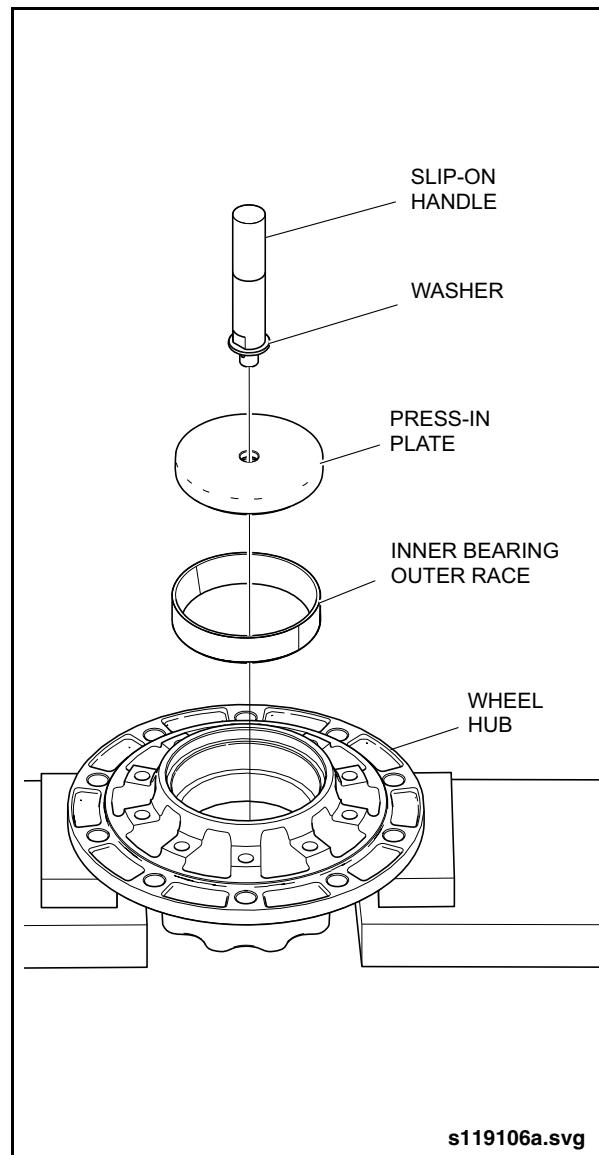

Fig. 2-23: Installing Inner Bearing Outer Race
1. Place wheel hub on its outer bearing support with a piece of wood supporting from underneath. See “Fig. 2-23: Installing Inner Bearing Outer Race” on page 26.